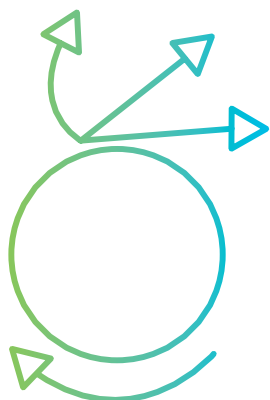

FIGURE 1: Concentrates energy close to impeller
1. At dispersion speeds (4,000 - 6,000 fpm) the impeller imparts high velocity to the material. See Figure 1.